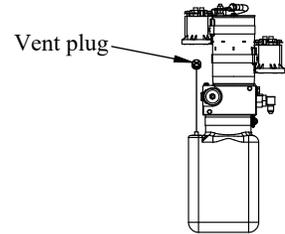

Figure 11: Vent plug.
7. **Remove** the vent plug from the pump reservoir (Figure 11).